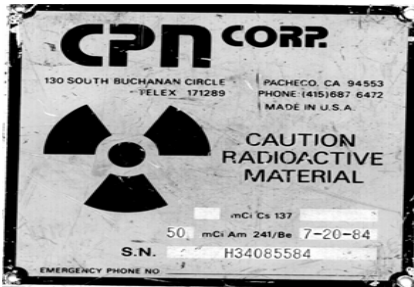

Figure 1
- The appropriate warning labels and placard are attached to the shell of the nuclear gauge (Appendix A; Figures 1 and 2).